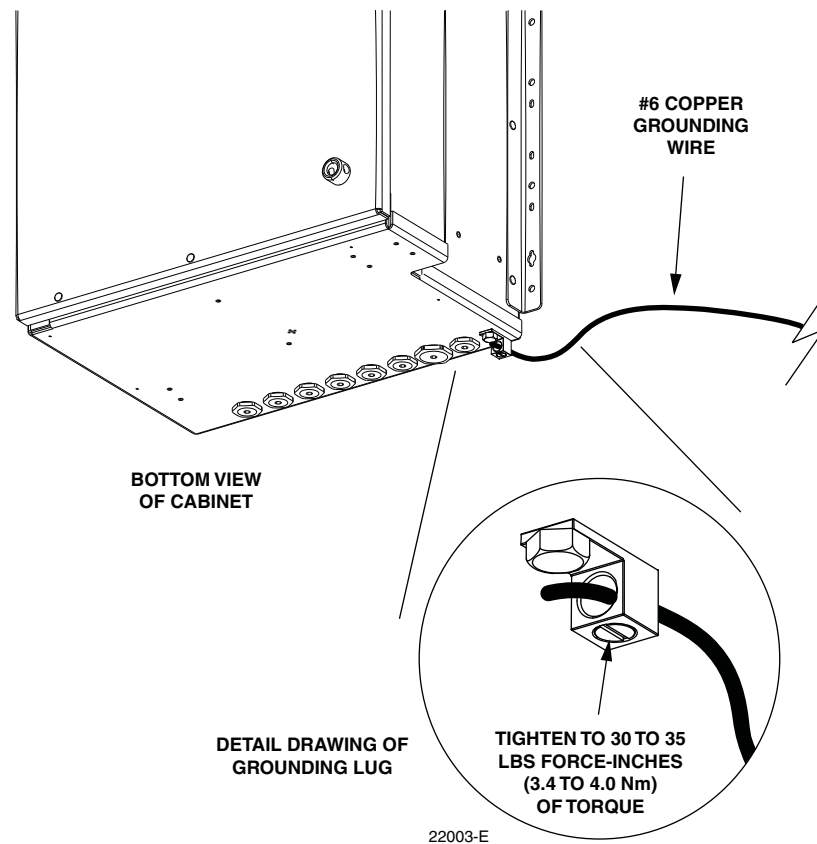

Figure 13. Grounding Wire Connection To Cabinet
1. Locate the cabinet grounding lug which is mounted on the underside of the cabinet as shown in Figure 13.